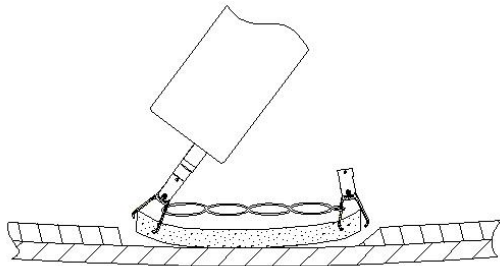
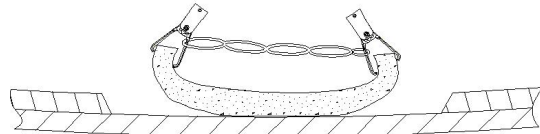

Fig 5
Fig.6
10. Once the arm/jaw/projection of the Endoscopic clip has engaged with/traversed through the distal loop of the elastic ring it may be properly positioned to be engage into tissue to provide the desired traction/counter-traction/triangulation. Once the endoscopic clip is engaged with the targeted tissue and connected to the elastic ring of the primary clip, it is deployed from the catheter assembly as per step 7 above (Fig.5 and Fig.6). As the targeted tissue is cut and freed from its position the tension from the loop connecting the two clips, raises the flaps of tissue to expose the underlying tissue and proper cutting angles to assist in the resection process.